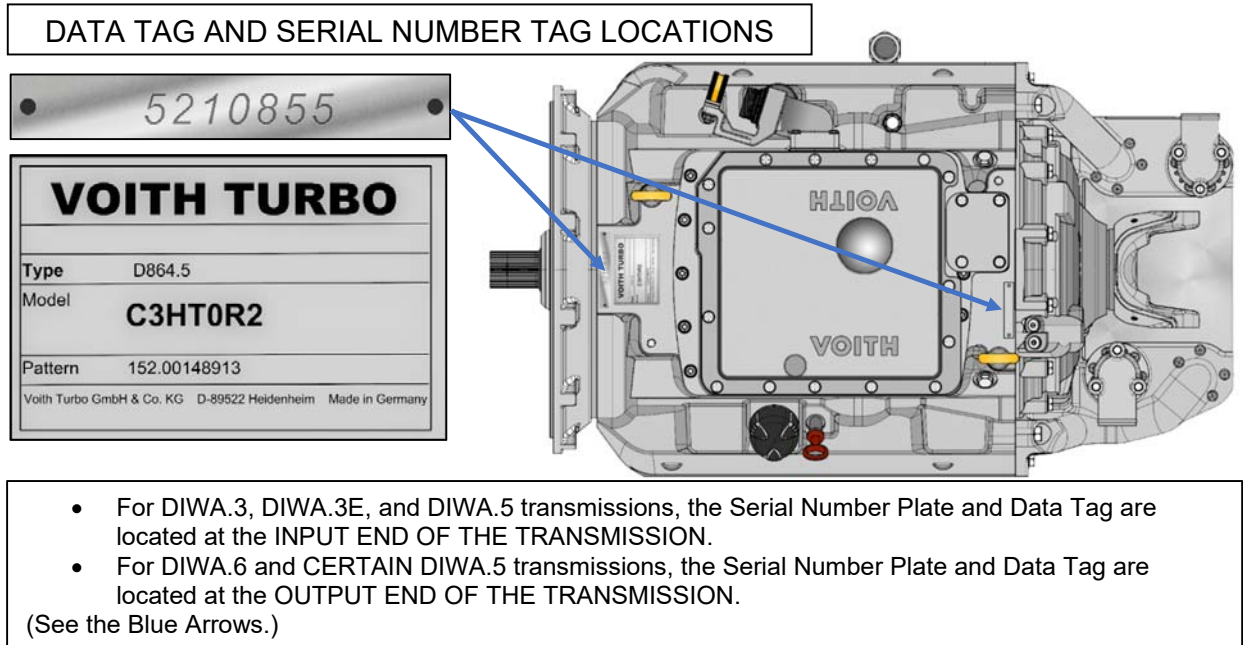

Figure 3.1a—Transmission Data Tag Location
**NOTE:** The transmission type, model number, pattern number, and serial number must be provided when placing an order for a Voith Service X-Change Transmission. This information can be found on the transmission data tag located on top of the transmission at either input or output. (See Figure 3.1a)